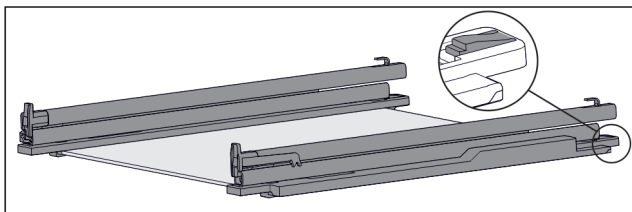

Fig. 55 Glass shelf with rails and retaining parts
- ▶ Press down retaining part at the rear (see *Fig. 55*) and at the same time push the rail back.